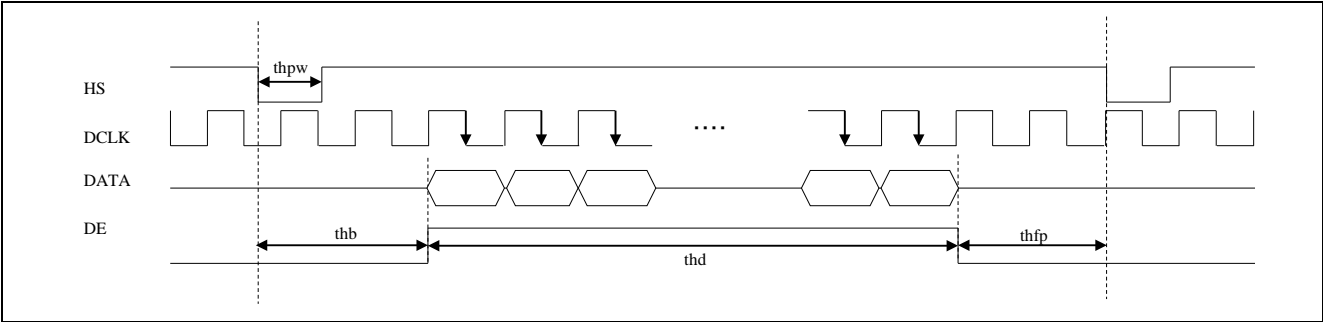
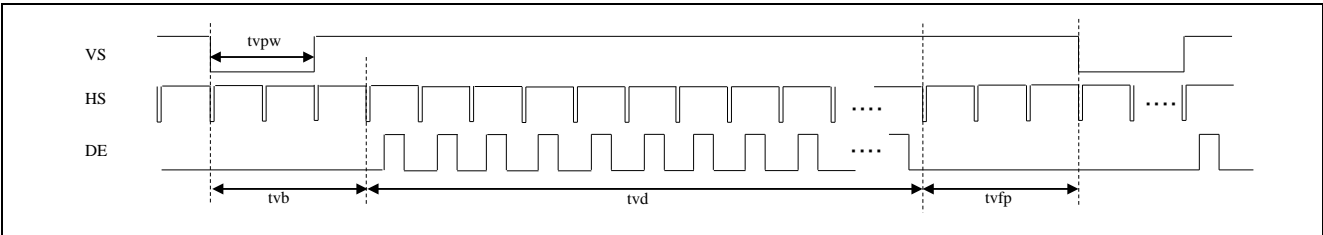
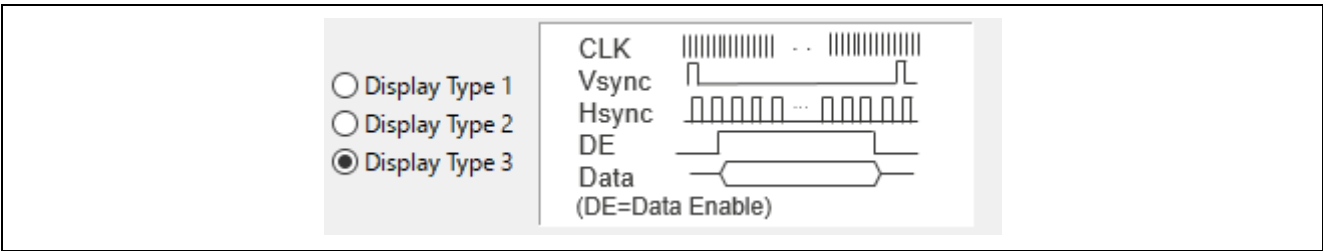

Figure 6.4 Horizontal Input Timing Diagram
Figure 6.5 Vertical Input Timing Diagram
Figure 6.6 Display Type Selection
Figure 6.4 and Figure 6.5 show horizontal and vertical input timing charts for the LCD ADAPTOR BOARD 4.3 of STREAM IT V2.0. The horizontal sync (Hsync) signal, vertical sync (Vsync) signal, and display enable (DE) signal shown in these timing charts are required, so select display type 3 (Figure 6.6).
Figure 6.4 and Figure 6.5 show horizontal and vertical input timing charts for the LCD ADAPTOR BOARD 4.3 of STREAM IT V2.0 used in the present case. Table 6.3 and Table 6.4 list the input timing of the horizontal and vertical sync signals. After inputting these control timing values, the result is as shown in Figure 6.7. The values input under **Typ** are used for timing control, and the values input under **Min** and **Max** are used to confirm that values are within the allowable range when the GUI is used for timing adjustment in QE for Display.
Based on Figure 6.4 and Figure 6.5, the polarity of the control signals is listed below.
Regarding the data output timing, since sampling occurs at the falling edge of the DCLK signal, according to Figure 6.4, the timing of data output on the VDC5 side is at the rising edge of the panel clock.